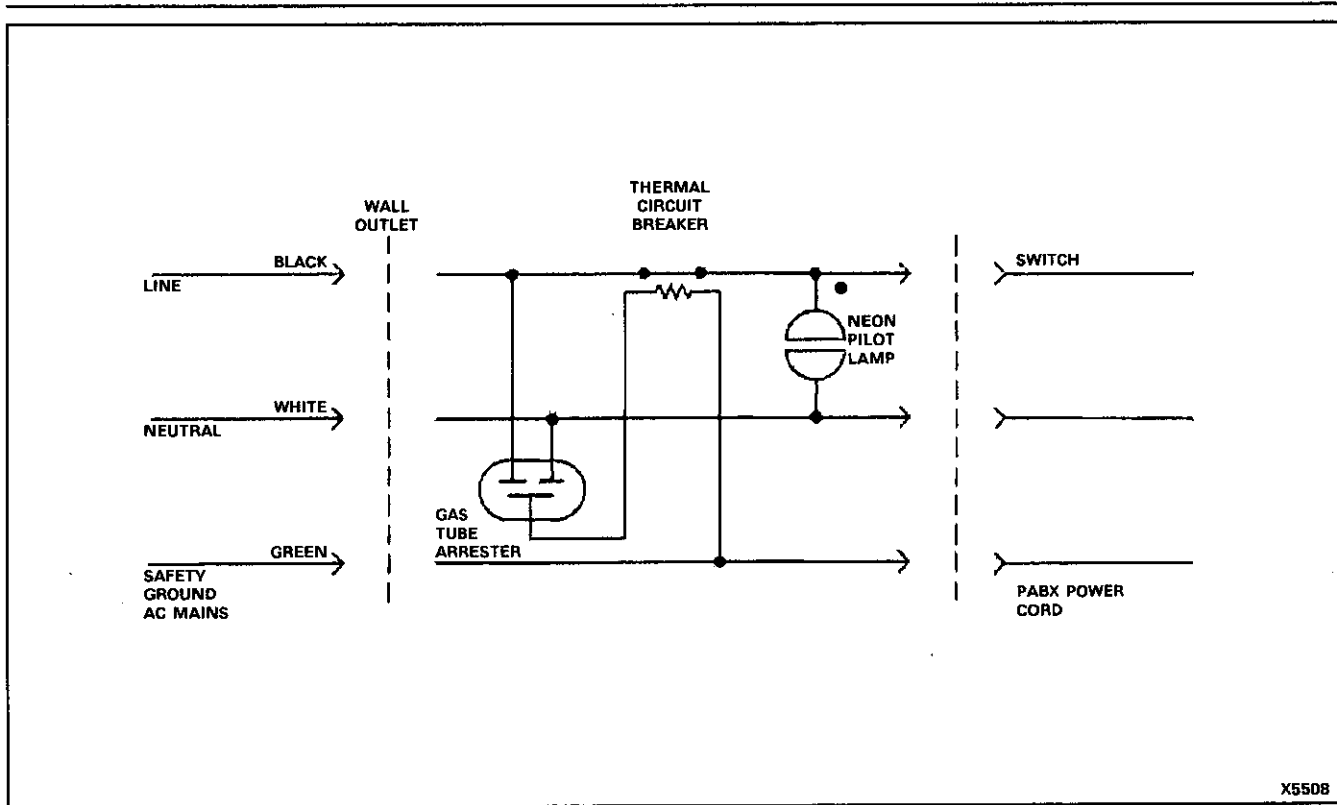

Figure D1-1 Surge Protector
- **Transient Overvoltage.** Overvoltage on either line and/or neutral (refer to Figure D1-1) of the AC input will cause the gas